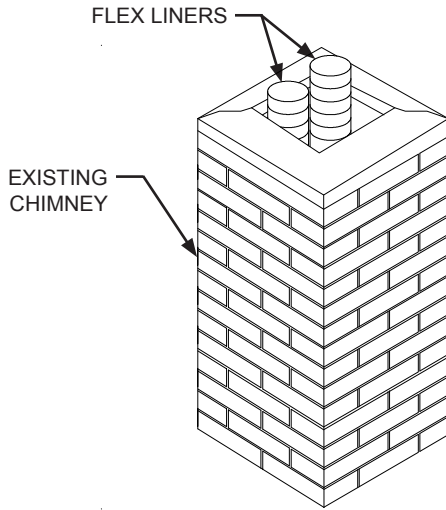

FIG. 4
Step 4. Remove the Flex Puller from the Flex Liner and temporarily secure the Flex Liner at the top of the chimney. Be sure to leave 2-3 inches of flex above the existing chimney to allow for connection to the Termination Kit (Baseplate and Adaptor) (See FIG. 4).